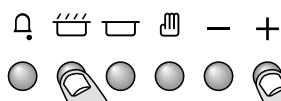

Fig. 4.3
- Press and hold both the [cook] and [stop] buttons down (**Fig. 4.3**). Now press the [+] button (or [-] button) until the correct time shows.